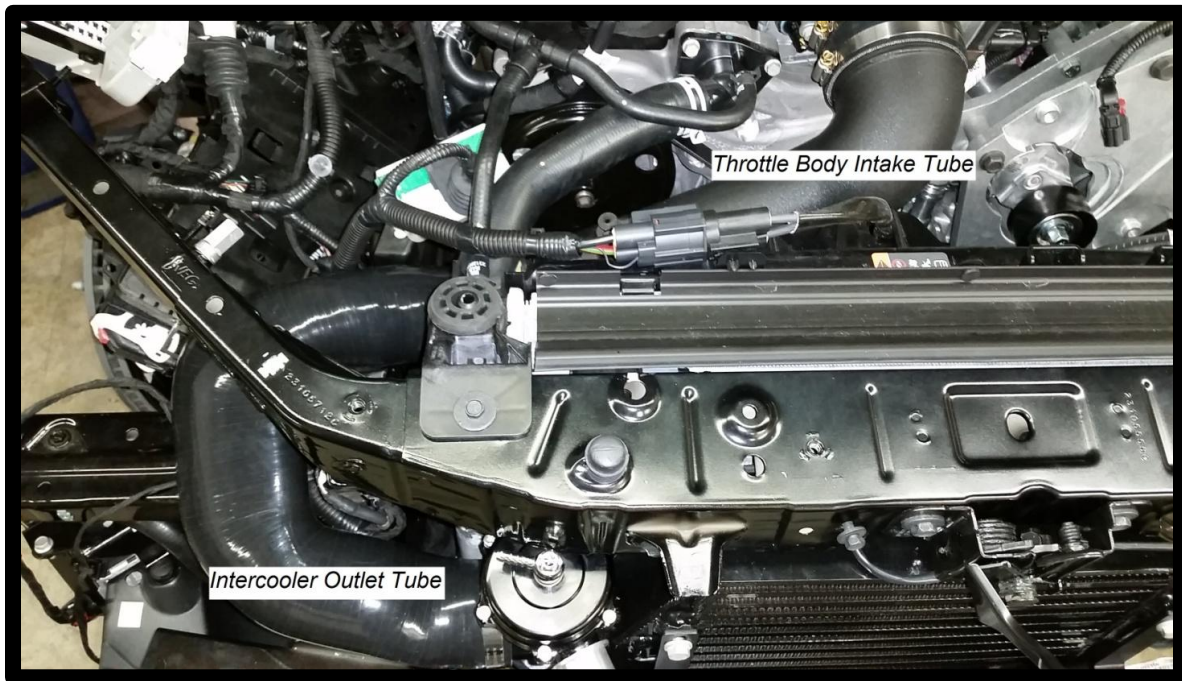

Figure 66: Intercooler Outlet Tube and Throttle Body Intake Tube
30. Once the intercooler outlet tube is loosely installed with the worm clamp install the throttle body intake tube and silicon sleeve as shown in Figure 66. Once both tubes are installed tighten all of the clamps, four total starting at the two throttle body T-Bolt clamps.